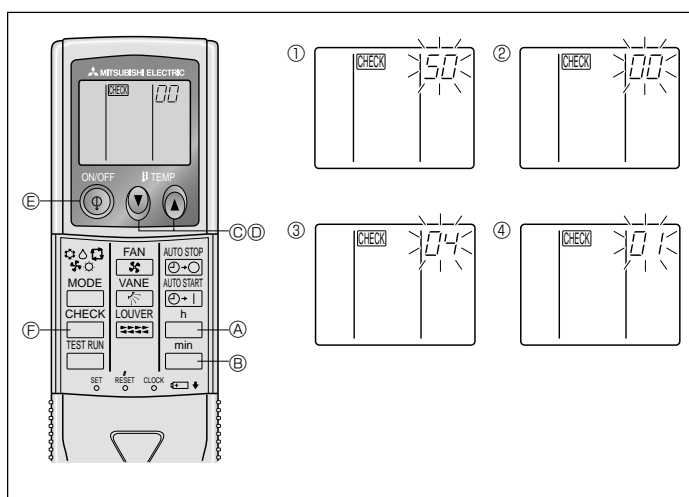

Fig. 6-9
- Press the MODE button (E) and mode and the setting number (I) and (II) will change to being on constantly and the contents of the setting can be confirmed.
- Press the FILTER (A) and TEST RUN (B) buttons simultaneously for at least 2 seconds. The function selection screen will disappear momentarily and the air conditioner OFF display will appear.
2) For wireless remote controller (Fig. 6-9)